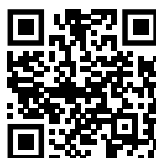

Fig. 61
- Open Liebherr SmartMonitoring Dashboard. (see Fig. 61)